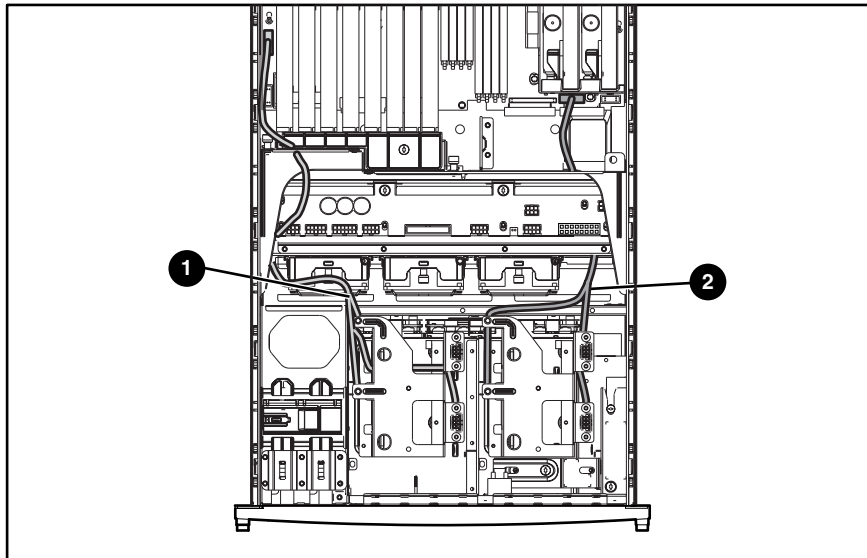

Figure 2-18. Power cables for system fans
1. Power cables for system fans. See Figure 2-18.